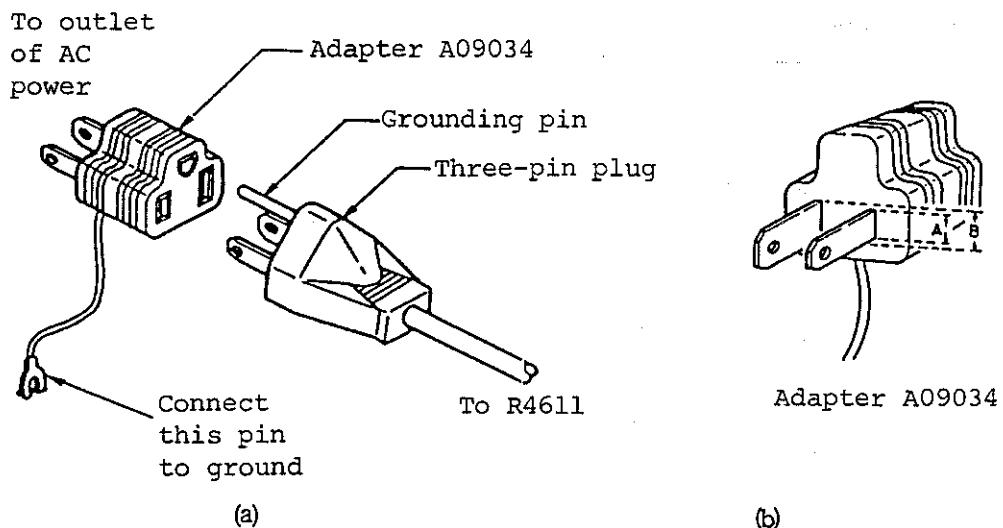

Figure 1-1 Power Cable Plug and Adapter
To connect the plug to the outlet using the adapter, connect either of the grounding cords (shown in Figure 1-1 (a)) of the adapter or the grounding terminal on the R4611 rear panel to ground via an external grounding cord.
Accessory adapter A09034 conforms to the Law for Electric Products. The width (A) of one electrode of the A09034 is different from (B) of the other one as shown in Figure 1-1 (b). When inserting this adapter into the outlet, check the direction of both the plug and outlet. When A09034 is unsuitable for the outlet to be used, purchase adapter KPR-13.